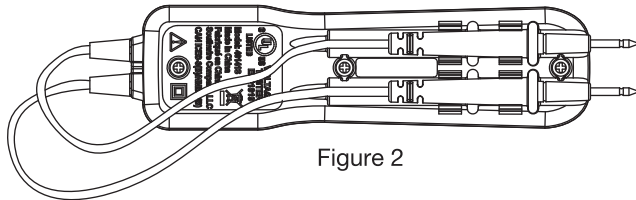

Figure 2
3. For testing electrical outlets, snap the test probes into the holder on the back of the testers (Figure 2). This allows one hand operation when inserting the probes into the outlet.